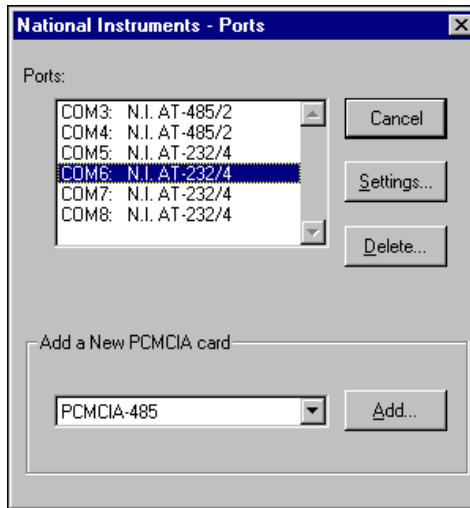

Figure C-12. Selecting an Interface to Uninstall
2. Select the port to remove from the list of ports as shown in Figure C-12.